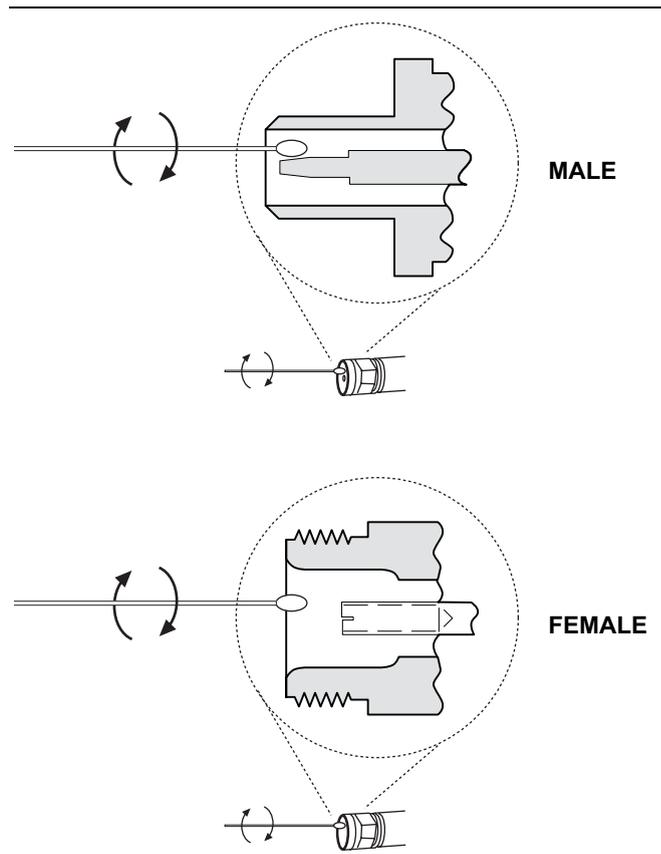

Figure 5. Cleaning Technique Using Cotton Swabs
3. Clean mating plane surfaces using alcohol on cotton swabs (Figure 5). Pay close attention to the size of the cotton swab. Use only enough solvent to clean the surface. Use the least possible pressure to avoid damaging connector surfaces. Do not spray solvents directly on to connector surfaces or use contaminated solvents.